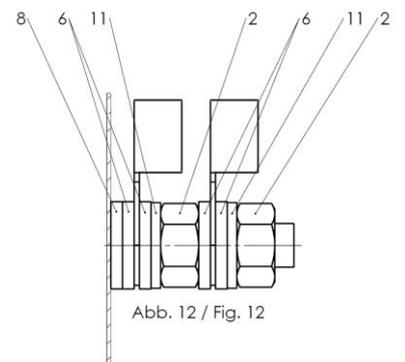

Abb. 12 / Fig. 12
- The housing must be grounded at the central protective conductor point in the lower part of the housing, marked with the protective conductor symbol, as shown in Fig. 12. Connection of the protective conductor according to section 5.3